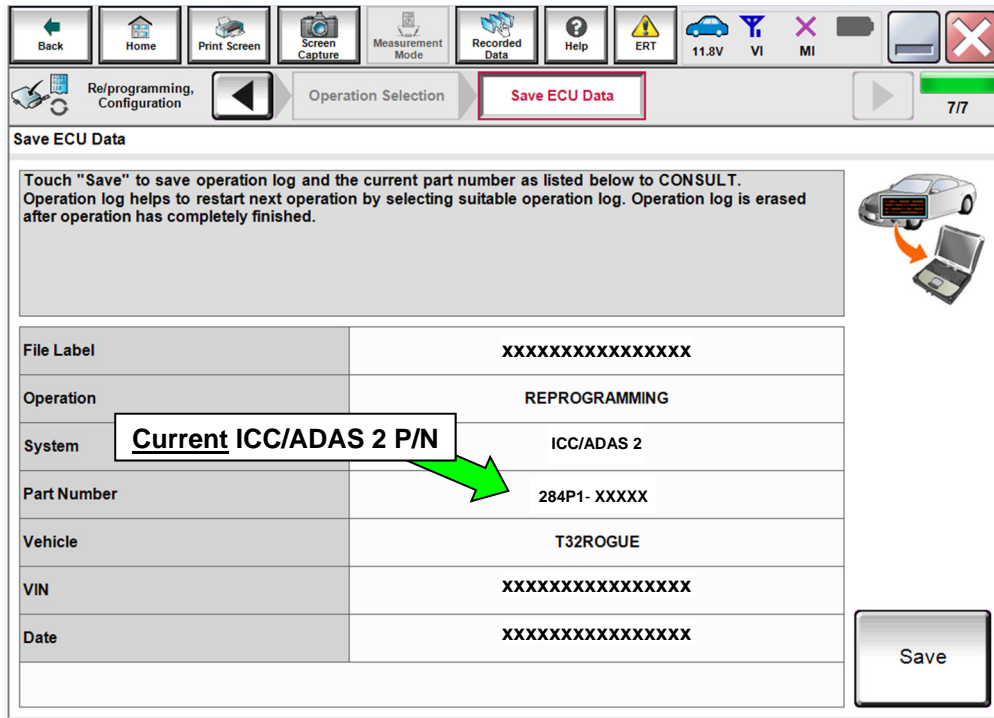

Figure 11
20. When you get to the screen shown in Figure 11, confirm that a reprogram is available as follows.